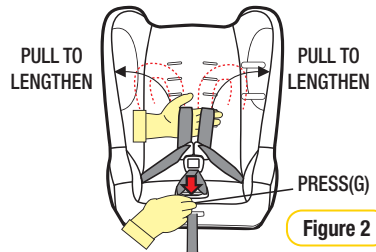

Figure 2
Step 2: Lengthen the harness in excess of what is needed before placing the baby in the car seat. To lengthen the harness, push the harness adjuster (G) that is located at the front of the seat (see Figure 2) whilst grasping both shoulder harness straps and pulling out till lengthened to the desired amount. Ensure shoulder straps are pulled equally on each side.